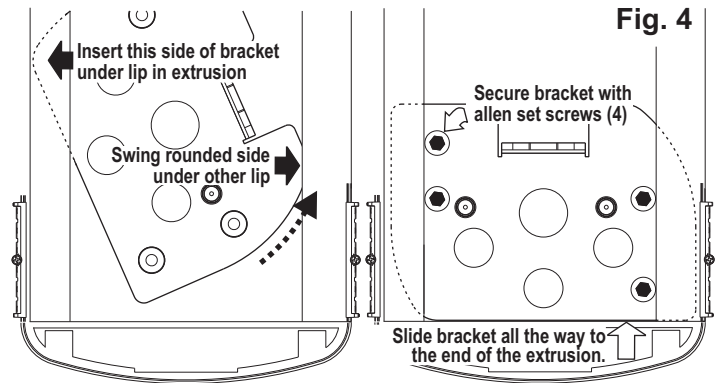

Fig. 4
- Place the mounting foot into the track on the bottom of the extruded base of the lightbar and twist it into position (Fig. 4).